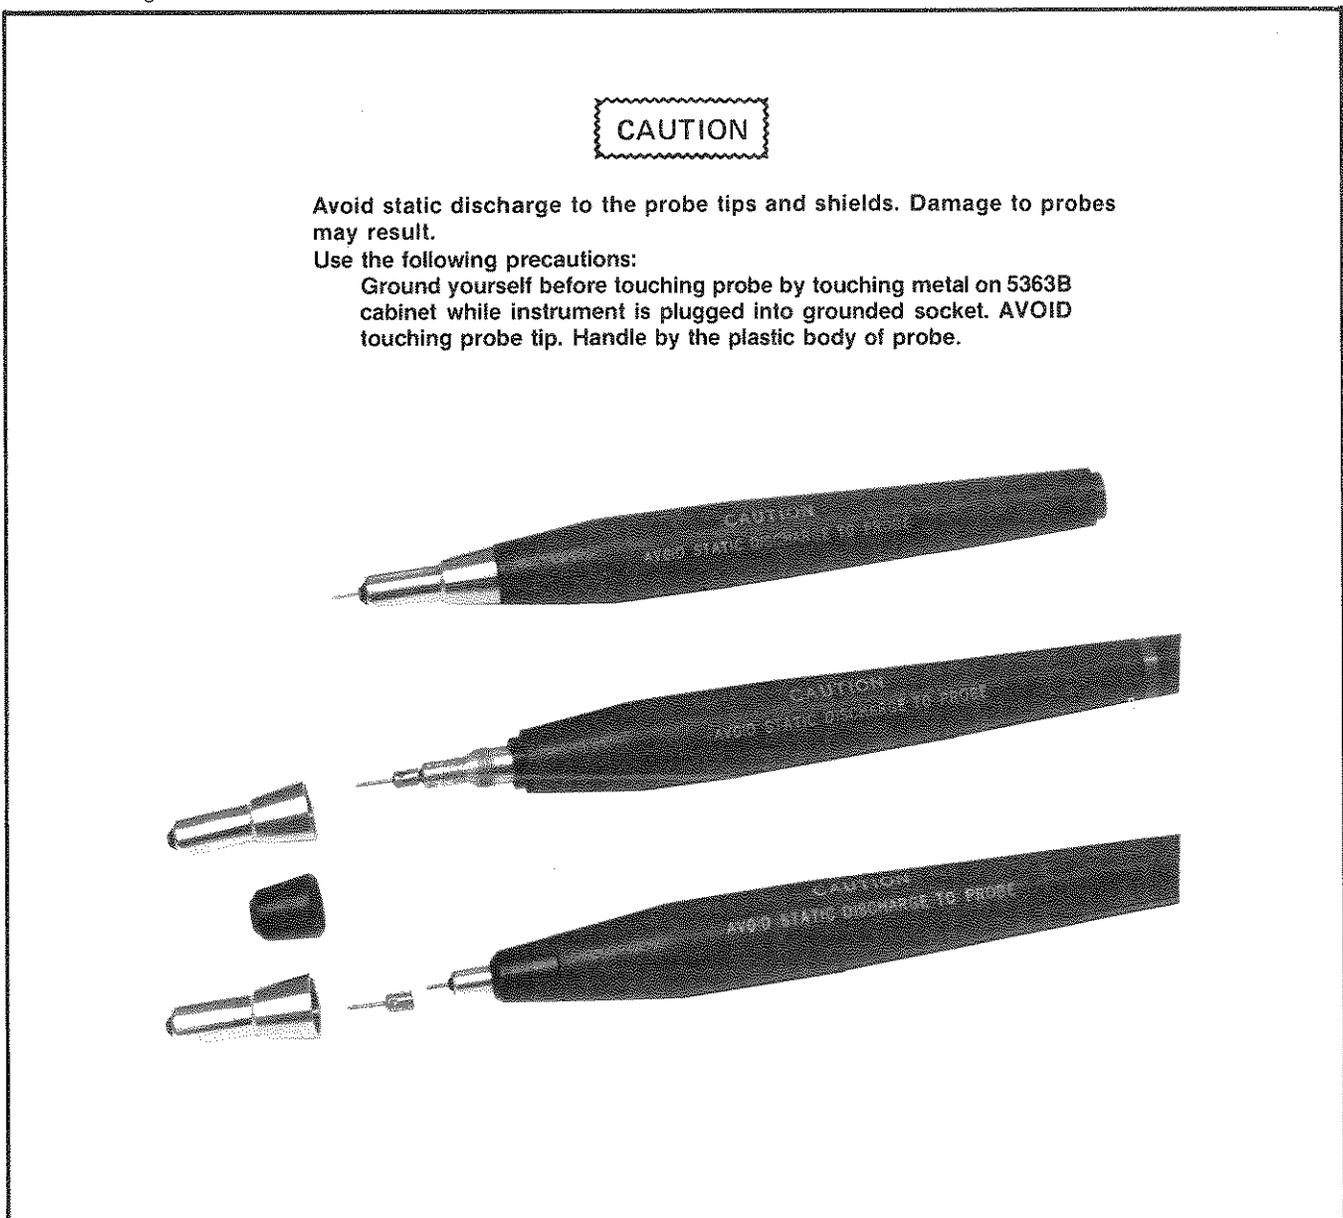

Figure 1-2. Changeable Probe Tips and Probe Cautions
5. AVOID STATIC DISCHARGE TO THE PROBE TIPS. DAMAGE TO THE PROBES MAY RESULT. FOLLOW CAUTIONS IN FIGURE 1-2.
1-16. The probes have an input impedance of 1 Meg ohm and an input capacitance of <15 pF. For use with either Hewlett-Packard or Tektronix® RF hardware, the tip of the probe unscrews to allow the tip to be changed to mate with the specific manufacturer's equipment, see *Figure 1-2*.